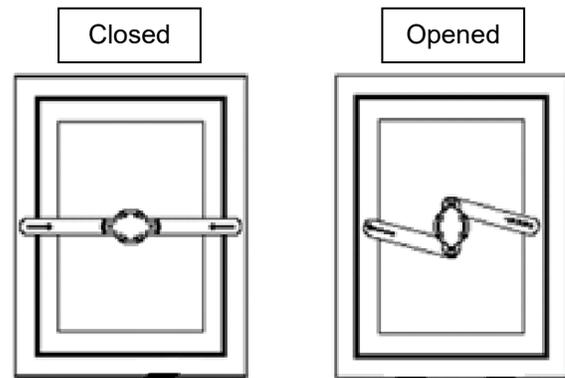

Figure 59
15) Turn the escape hatch handle to retract the arms and install it into the escape hatch opening of the center panel. (Figure 59)